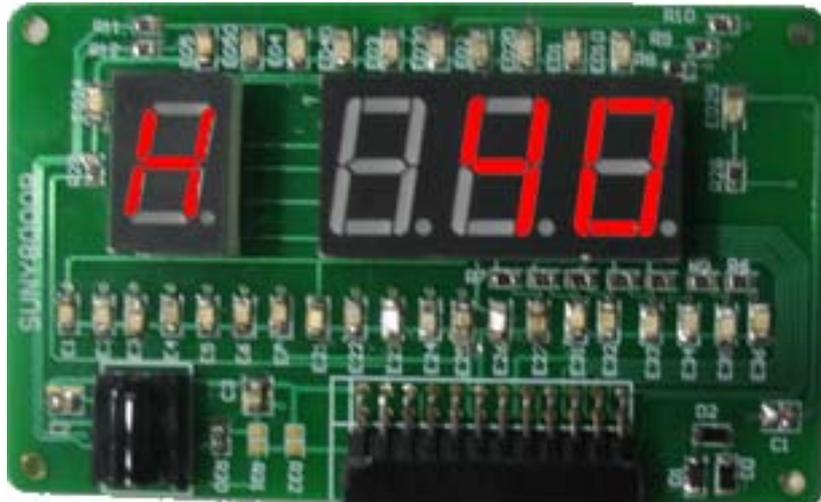

Fig. 8
- Press [MIN] button, panel shows as Fig.8.